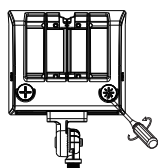

Fig. 12
- 3.) Replace the KO plugs, ensure they are tight to prevent any ingress water. The clear plastic plug should be used on the hole with the photocell controller (**Fig. 12**).